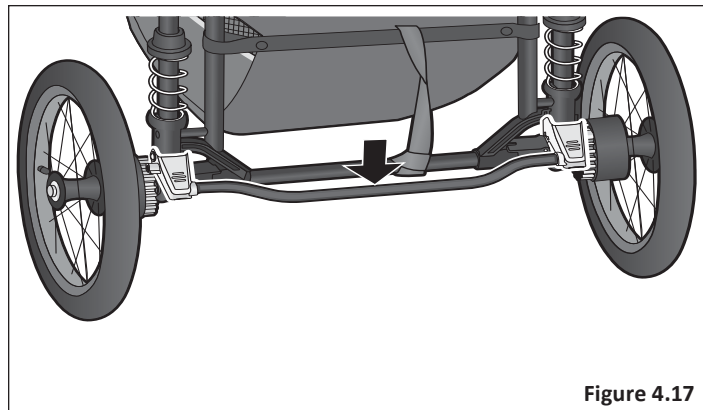

Figure 4.17
- 1 **Lock Brakes:** Step down onto brake bar between rear wheels to lock both rear wheels. **Figure 4.17** To park stroller, **BRAKES MUST BE LOCKED.**